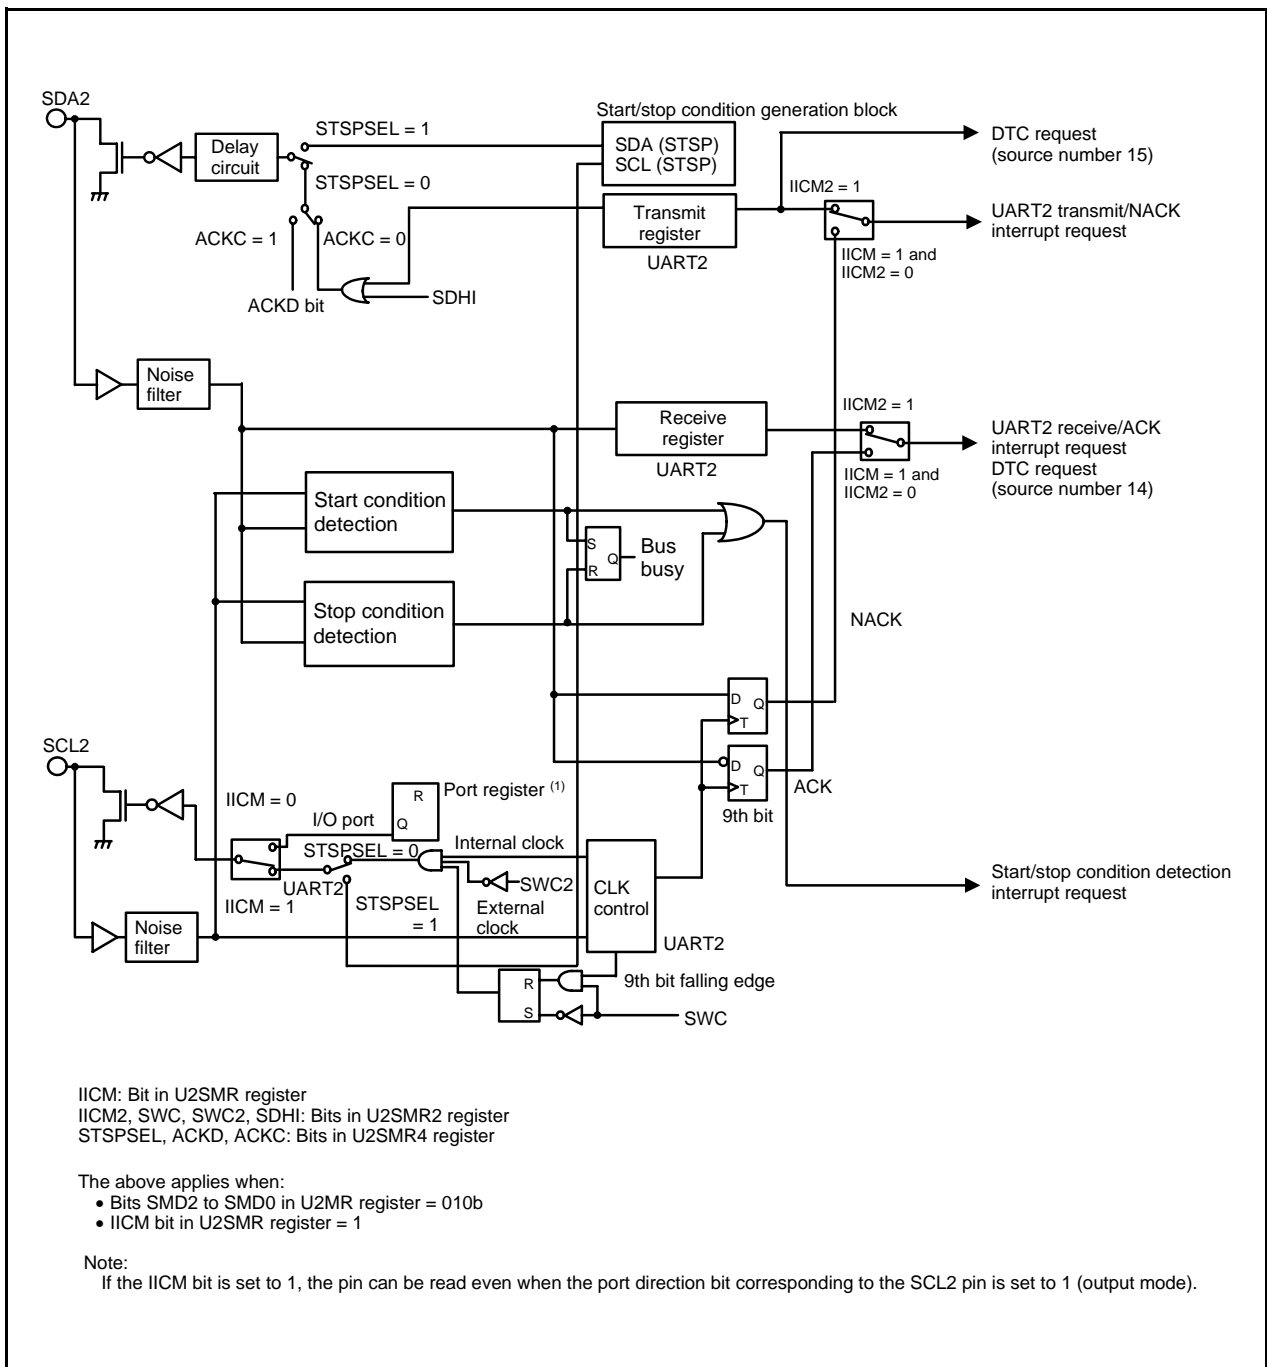
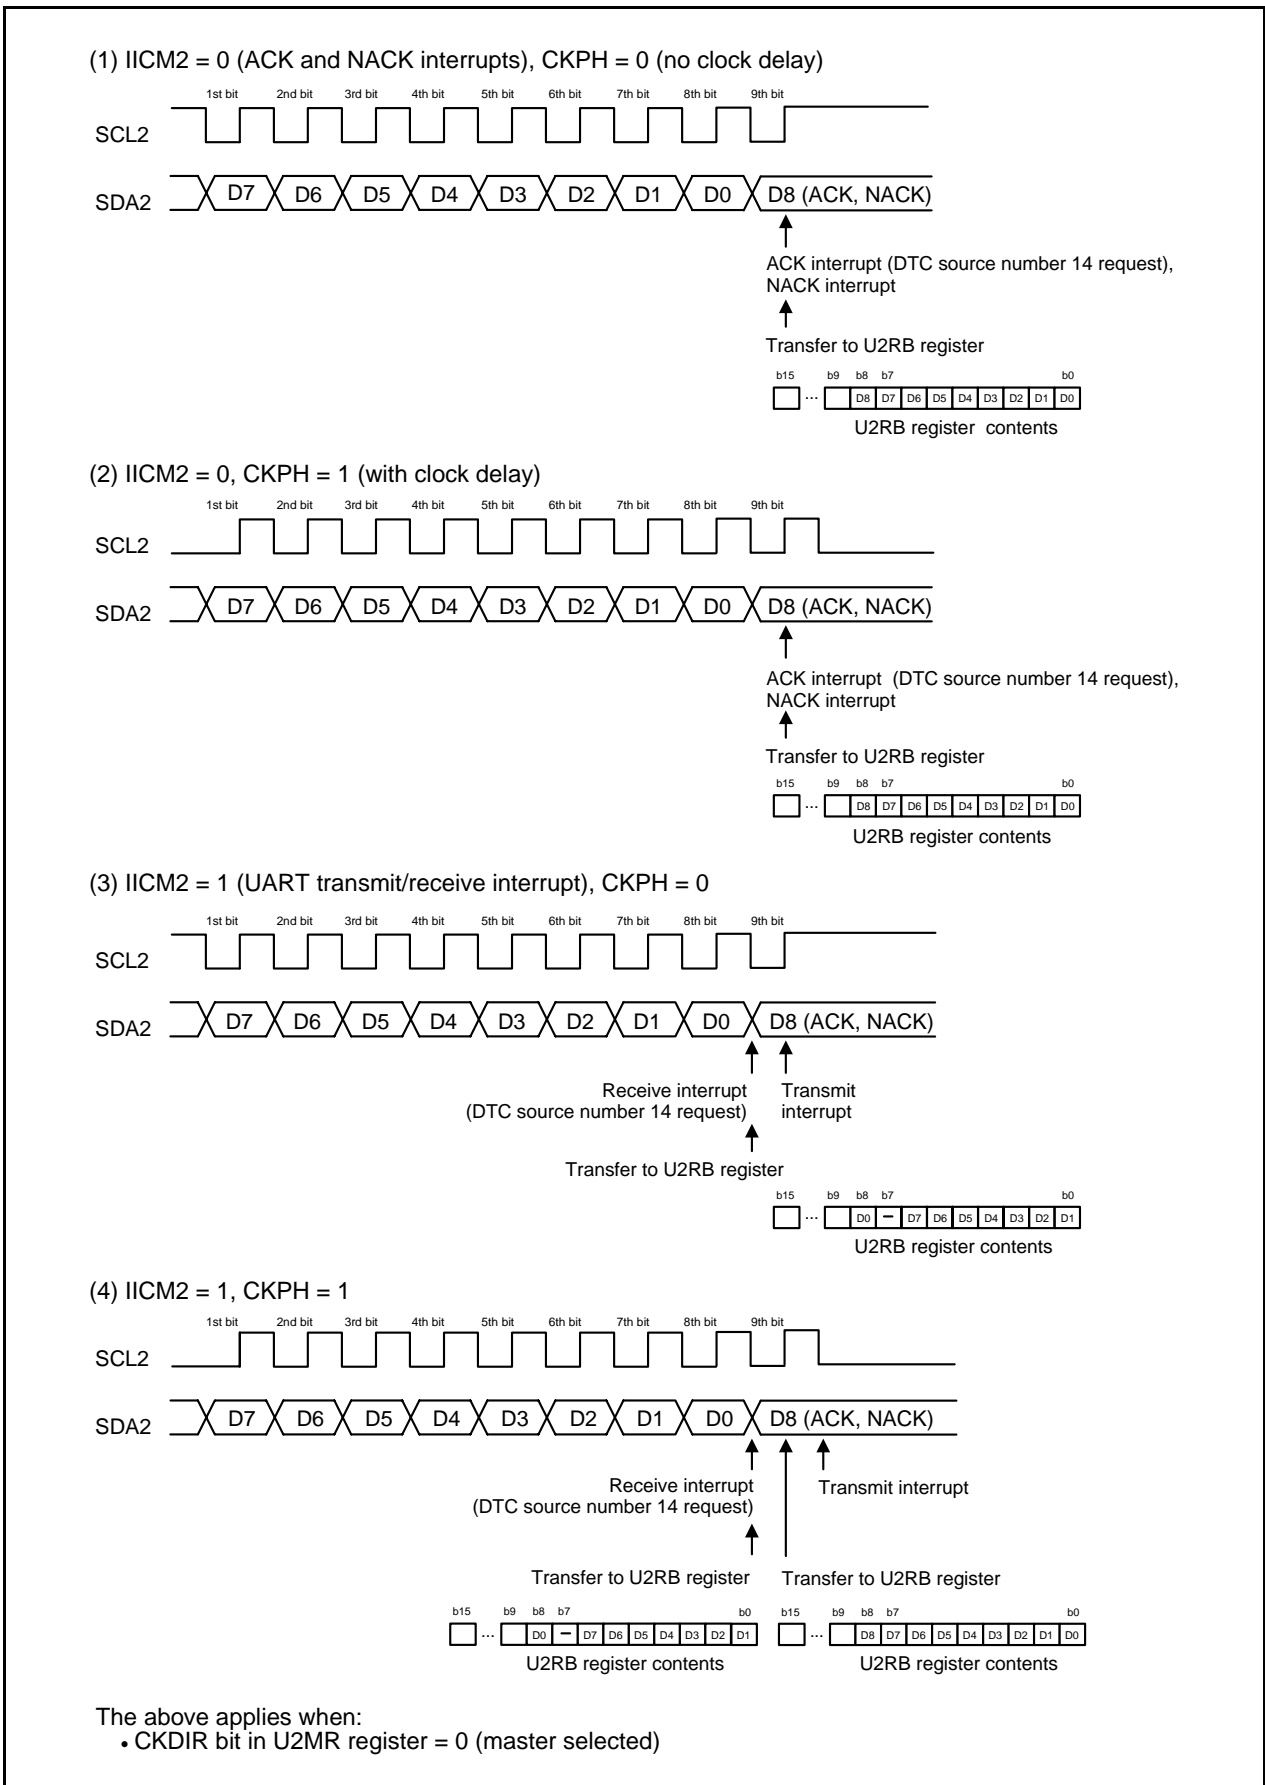

Figure 23.13 I²C Mode Block Diagram
Figure 23.14 Transfer to U2RB Register and Interrupt Timing
I²C mode is provided for use as a simplified I²C interface compatible mode. Table 23.9 lists the I²C Mode Specifications. Tables 23.10 and 23.11 list the registers used in I²C mode and the settings. Table 23.12 lists the I²C Mode Functions, Figure 23.13 shows an I²C Mode Block Diagram, and Figure 23.14 shows the Transfer to U2RB Register and Interrupt Timing.
- Refer to **Figure 23.14 Transfer to U2RB Register and Interrupt Timing**.
The transfer clock is used to transmit and receive data as is shown in **Figure 23.14 Transfer to U2RB Register and Interrupt Timing**.